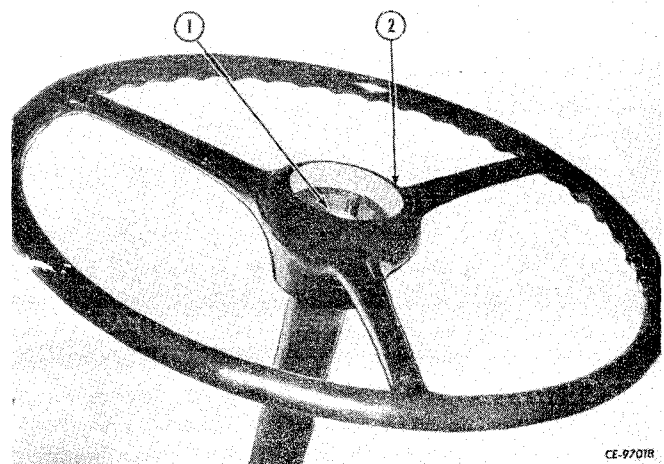

Figure 8-4
Remove steering wheel nut (1, Fig. 8-4). Remove wheel (2) using a wheel puller.